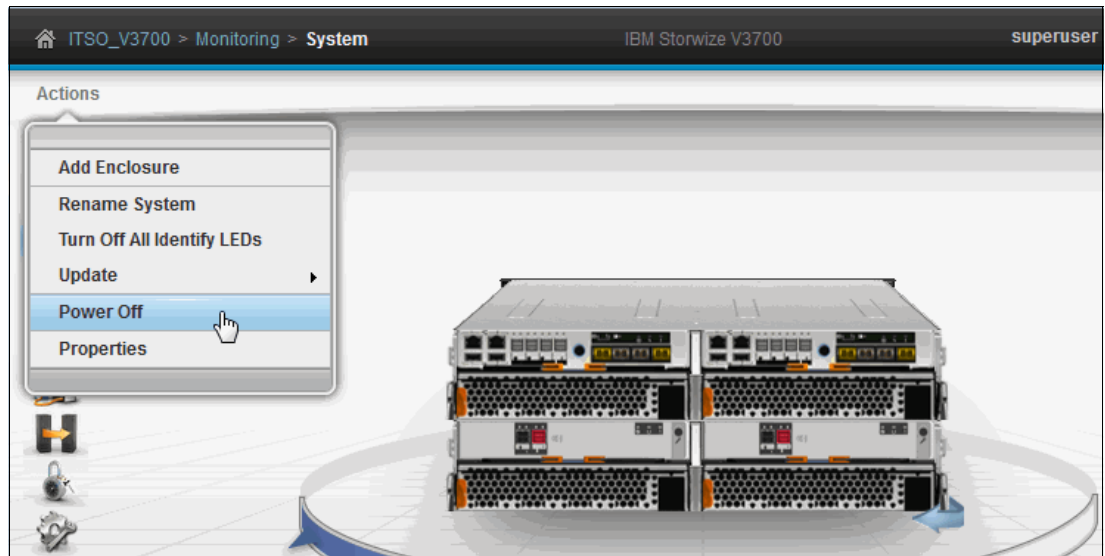

Figure 11-81 Powering off the system
- c. Select Power Off, as shown in Figure 11-81.